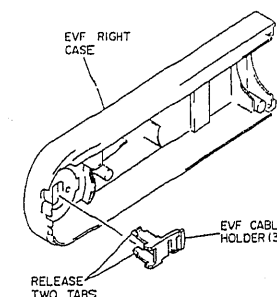

Fig. 2-157
- 3) Release two (2) tabs of EVF cable holder (3) from the exterior of the EVF right case. (See Fig. 2-157)